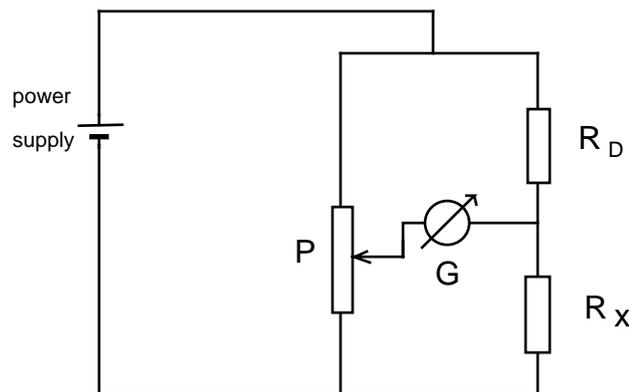

Figure 1. Experimental circuit
The Wheatstone's bridge is applied to measure the unknown resistance by providing a balance between two parallel circuits - Fig.1. One branch of the circuit is a uniform resistance path of potentiometer - P. The other branch contains the unknown resistance and known resistance of decade box - R_D . Balanced bridge (with zero galvanometer deflection) gives the opportunity to find the unknown resistance - R_x - from the potentiometer's scale readings - n - Eq.1.:
1. Place the tested resistance (mounted inside the aluminium block) as the unknown resistance of Wheatstone's bridge circuit as diagrammed in Fig. 1.